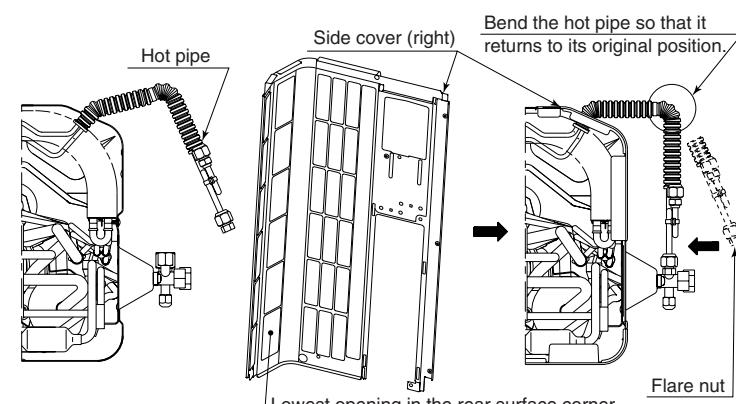

Figure 8
- Pass the hot pipe through the lowest opening in the rear surface corner of the side cover (right), and move the side cover (right) along the hot pipe until it is in the installation position (figure 8). Then bend the hot pipe again so that the flare nut and hot pipe is returned to its original position (figure 8).